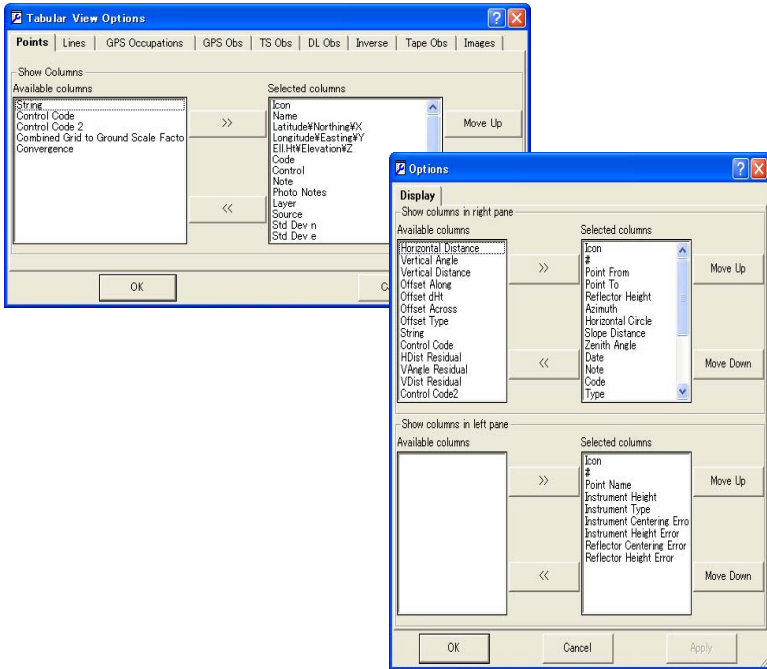

Figure 4-37. Example Tab Options for Points and TS Obs
2. Select and arrange the desired columns (Figure 4-37 on page 4-35).